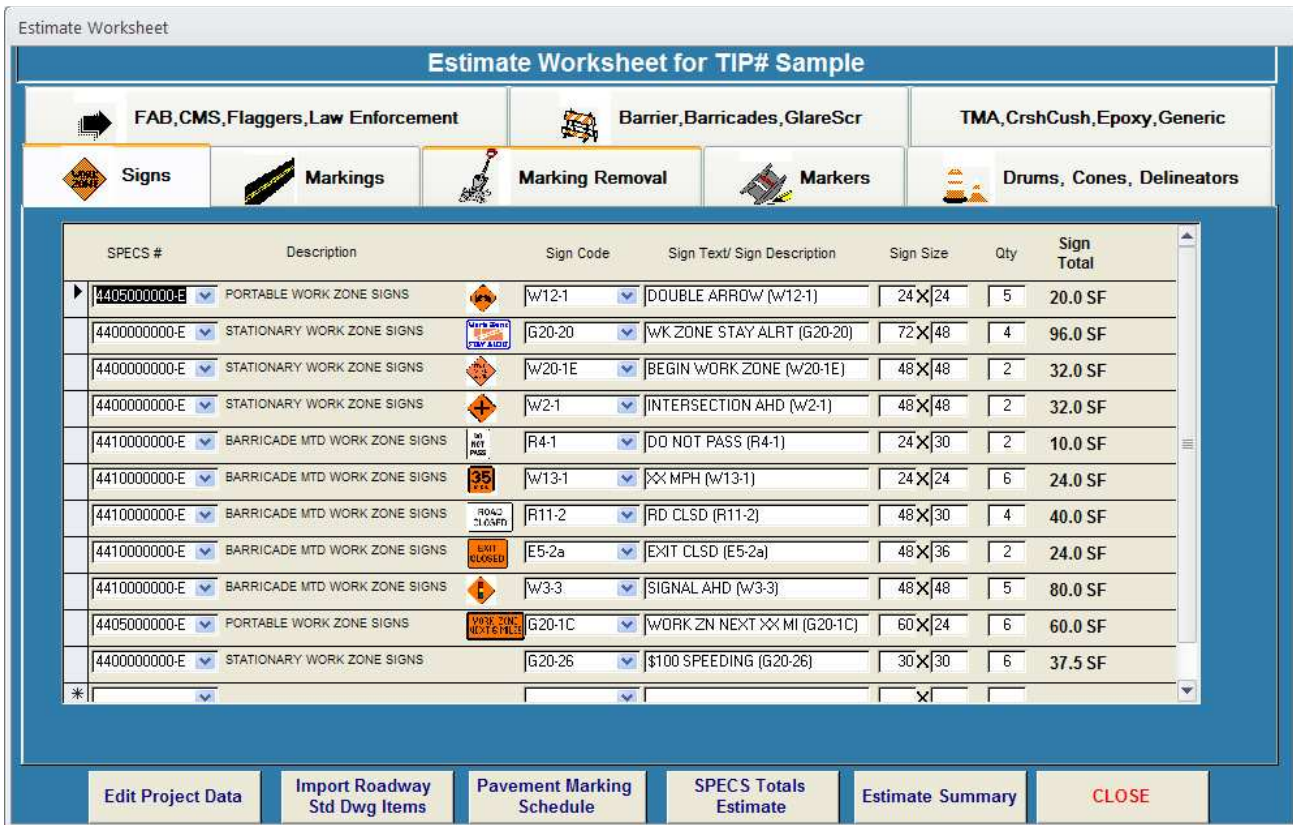

Figure 3
Once the user has selected either an existing project, or created an estimate for a new project, the user can now enter in pay items into the estimate on the Estimate Worksheet (Fig 3). Across the top of the Estimate Worksheet, several tabs show various product classifications. These classifications are broken down into categories of items that are keyed in similarly. For example, flashing arrow boards, changeable message signs, flaggers and police are all entered with some length of time specified. Each of these tabs allow for the entry of items in a slightly different fashion. Entry of items for each of the tabs is described below:
- **Signs (Fig 3)** - Enter each of the different signs that will be used on the project separately. For each sign, first select from the SPECS# pull-down menu the type of sign, either Stationary, Portable or Barricade Mounted. Be sure to select a SPECS# first, or else various error messages will be displayed if other fields are entered in before the SPECS# is selected.